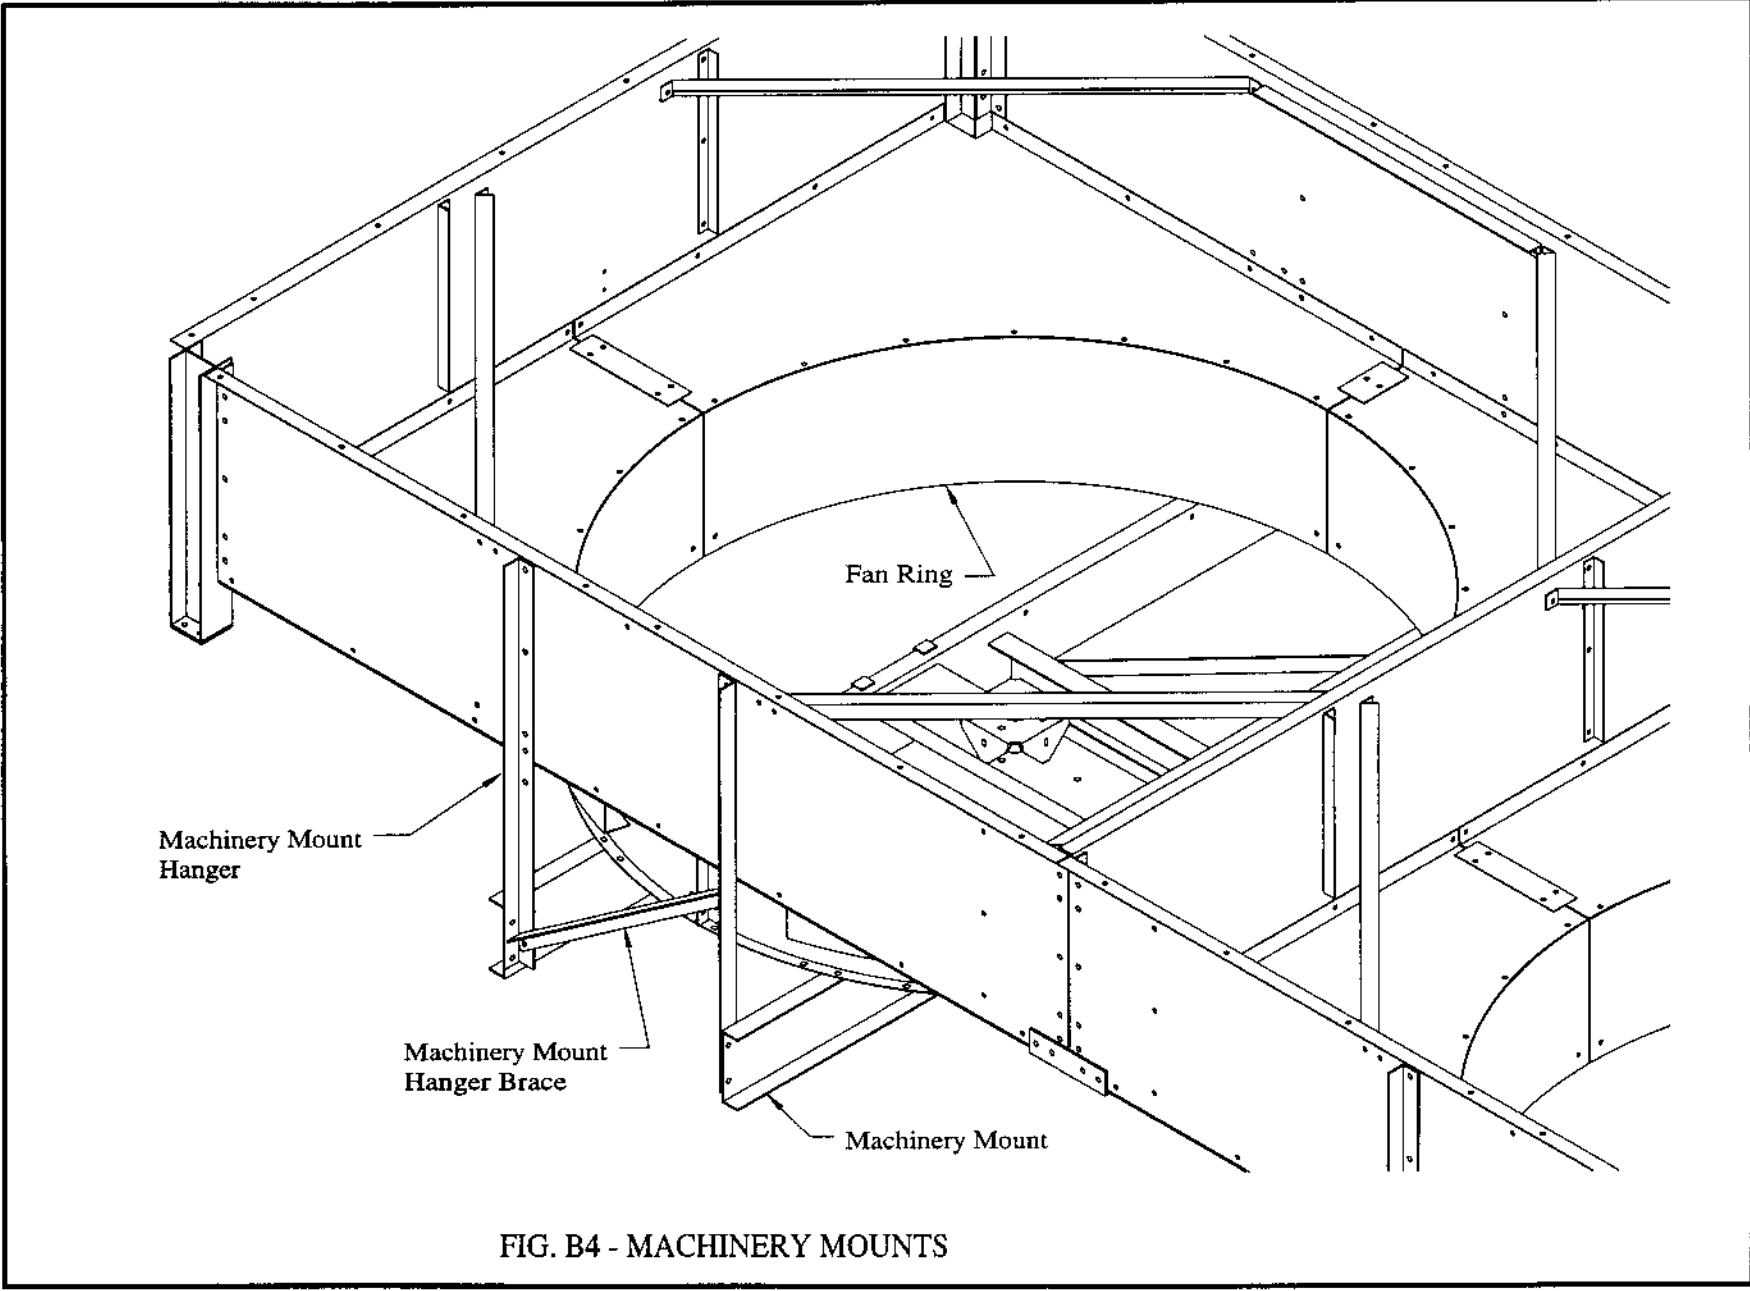

FIG. B4 - MACHINERY MOUNTS
5. Attach machinery mount to fan ring. Attach machinery mount hangers to machinery mount and side panels. Attach machinery mount hanger braces, if provided. See Fig. B4.